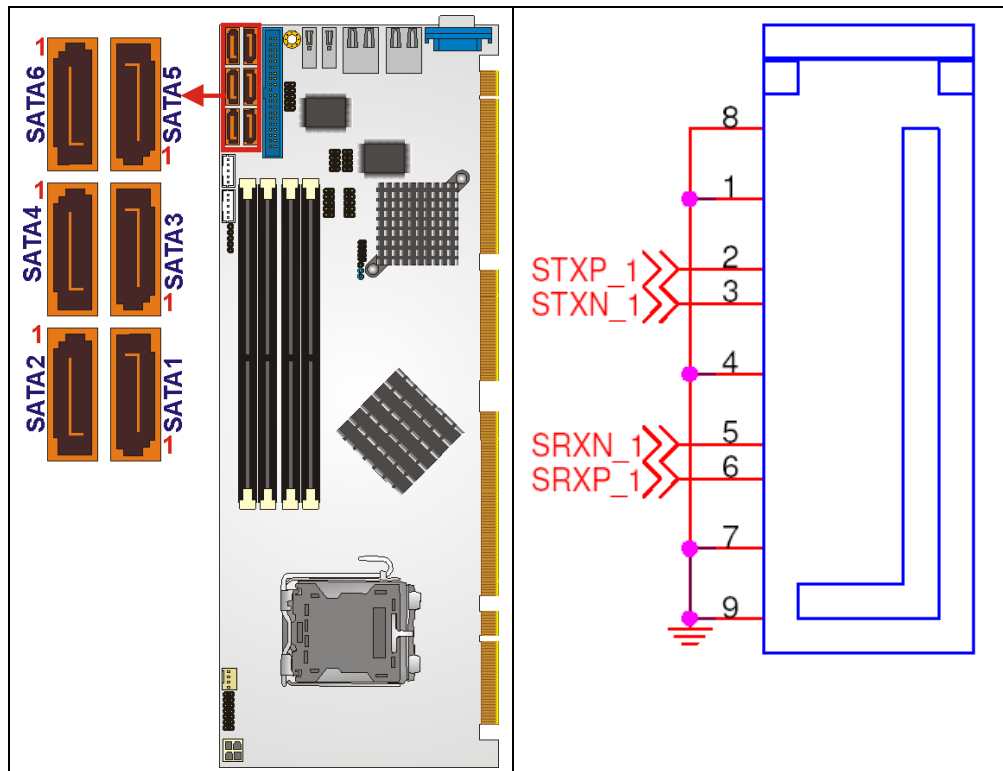

Figure 4-11: SATA Drive Connector Locations
**CN Location:** See Figure 4-11